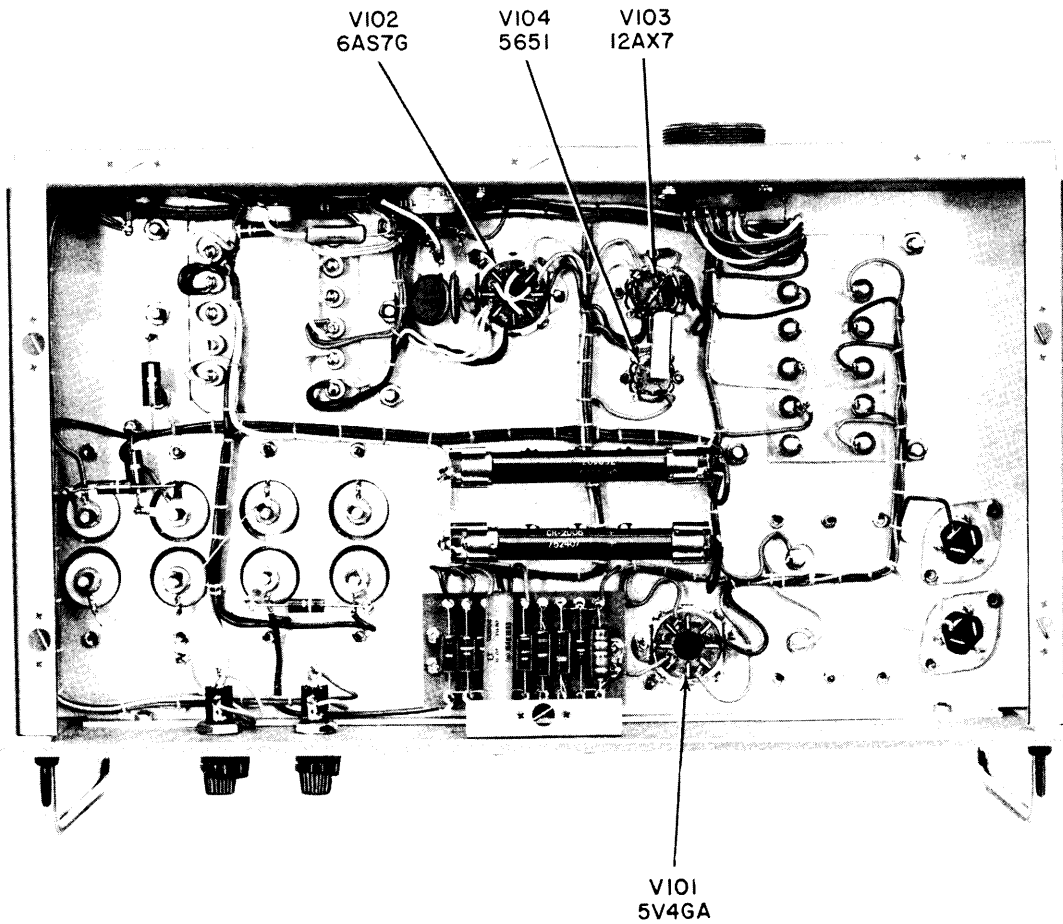

Figure 5-4. Tube Locations, Model AP-123
- d. Tube locations, model PS (figure 5-4).